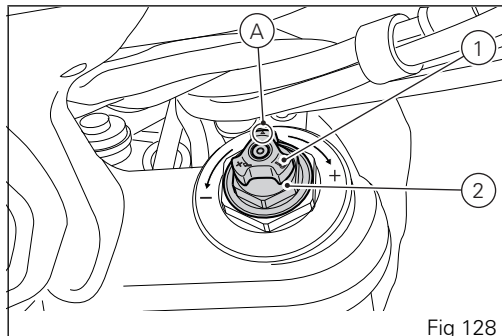

Fig 128
- 1) to adjust the rebound damping (Fig 128);
- 2) to adjust the preload of the inner springs (Fig 128);
To change preload of the spring inside each fork leg, turn the hex. adjuster (2, Fig 128) with a hexagon wrench of 0.87 in (22 mm), starting from the fully open (clockwise) position.
From reference (A, Fig 128), every full turn clockwise corresponds to 0.04 in (1 mm) of preload of the spring, up to a maximum of 0.59 in (15 mm), corresponding to 15 full turns.